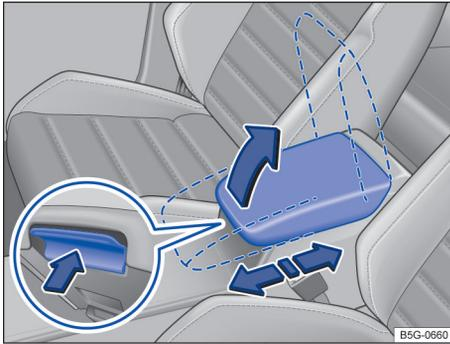

Fig. 74 Front center armrest.
- To adjust the height of the center armrest, push the release button (magnified view), and *lift* the center armrest up to a comfortable position in the direction of the large arrow → fig. 74.